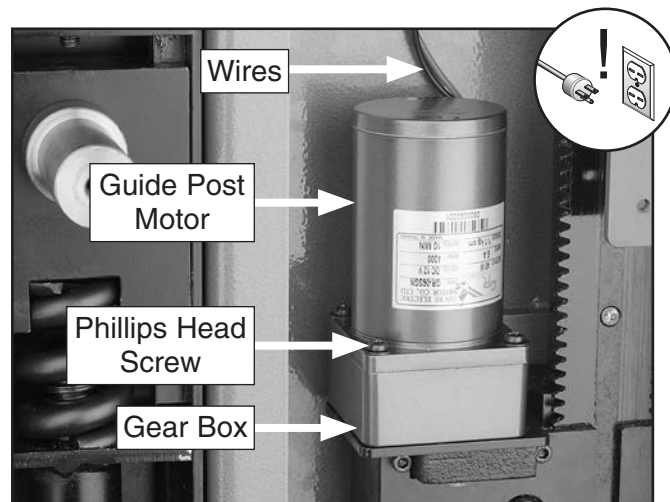

Figure 79. Location of guide post motor.
4. Remove the Phillips head screws that secure the motor to the gear box (see **Figure 79**).